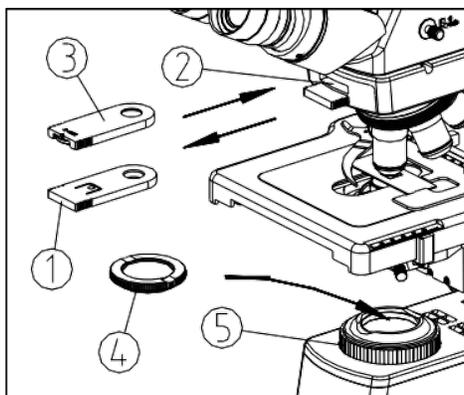

Fig. 27
Using the Simple Polarizer – (Fig. 27)
Simple polarizing includes the analyzer ③ and the 360° polarizer ④. (Fig. 27)